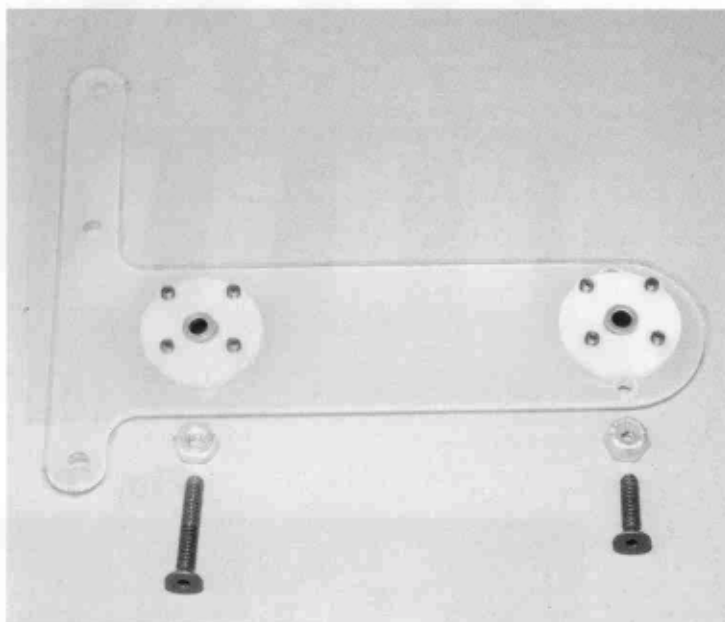

Fig. 16
□ **Fig. 16—** Now assemble and mount the second, rear socket assembly like you did the first one. Except in this socket, the ball **MUST BE VERY FREE, BUT NOT LOOSE**. Now see if the ball is **PERFECTLY FREE**. If it is, good, leave it as is. If it's not, there are two things you can do. You can unscrew all four screws one half turn. But the best thing to do is to take the ball back out and polish it. You can do this by placing a 4/40 screw in the ball and securing it with a nut and turning the screw in a drill press, polishing the ball with crocus cloth or #660 wet or dry sandpaper. Re-install the ball and make sure it's **PERFECTLY FREE**, but **NOT LOOSE**.